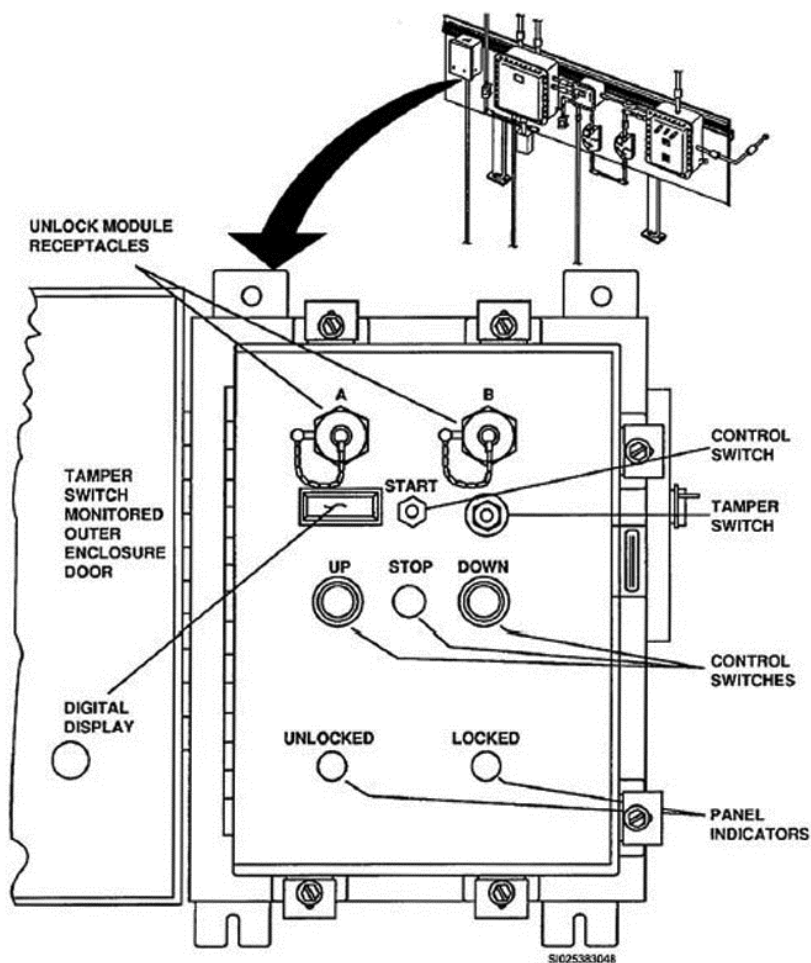

Figure 2-13. Shelter control panel.
- Shelter control panel (fig. 2-13).